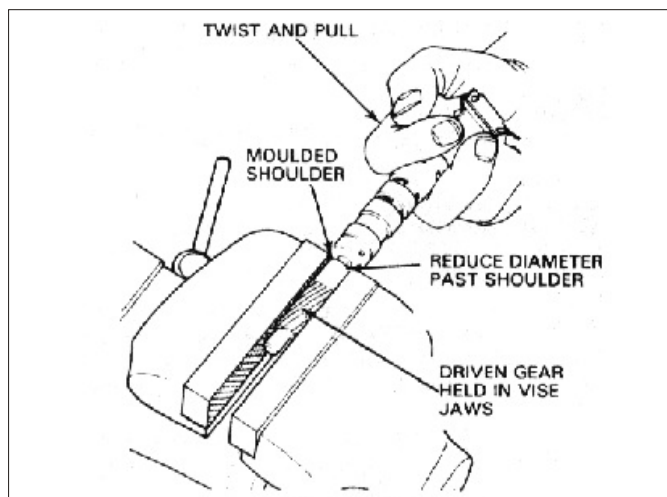

Figure 2
2. Clamp the plastic driven gear in the vise. Grip the governor body firmly then twist and pull at the same time (Figure 2).